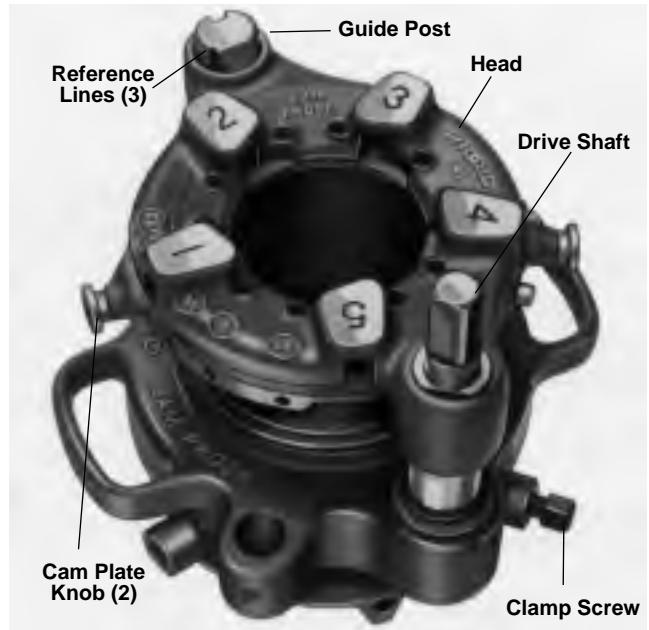

Figure 13 – No. 141 Geared Threader with Drive Shaft Up (No. 161 Threader Similar).
2. Pull knobs (Figure 13) of cam plate and rotate cam plate to desired pipe size marking on top of die head. Release knobs when locating pins drop into hole in selector plate.
Grasp workholder and turn square end of drive shaft or turn gear case by hand to respective reference lines on guide post (Figure 13).
2. Pull Knobs (*Figure 13*) and rotate cam plate to CD mark on top of die head.
8. Using socket wrench, tighten workholder clamp screw (Figure 13) securely.
9. Slip square socket of No. 840A Universal Drive Shaft over square end of threader drive shaft and tighten two (2) set screws.
141 and 161 – Step on foot switch and reverse threader one or two revolutions. Pull knobs (Figure 13) and rotate cam plate as far as it will go towards CD mark on head to disengage dies.
141 and 161 – Loosen jaw clamp screw (Figure 13) and turn workholder to OPEN position. Remove threader.